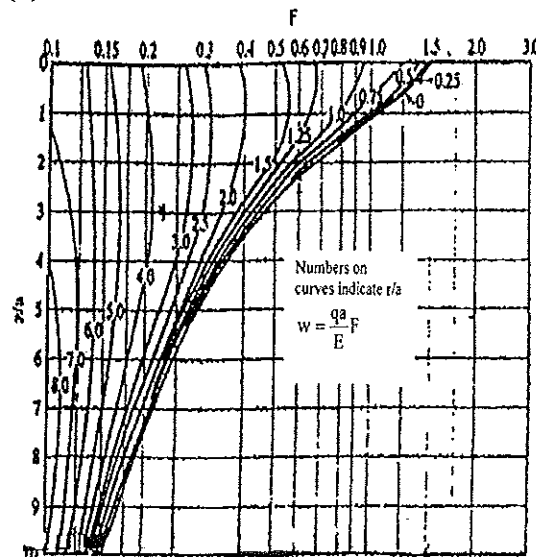

Fig. Q2(c)
- c. A dual wheel load assembly with 70 kN load on each wheel and contact pressure of 0.7 N/mm² is applied on a homogeneous mass with modulus of elasticity 12 N/mm². If the centre to centre distance between the two wheels is 600 mm, determine the deflection value at a depth of 0.5 m at four points, at the centre of dual wheels, and at radial distances of 300, 600 and 900 mm from this centre along the line joining centers of the two wheel loads. Use deflection factor chart Fig. Q2(c). (08 Marks)